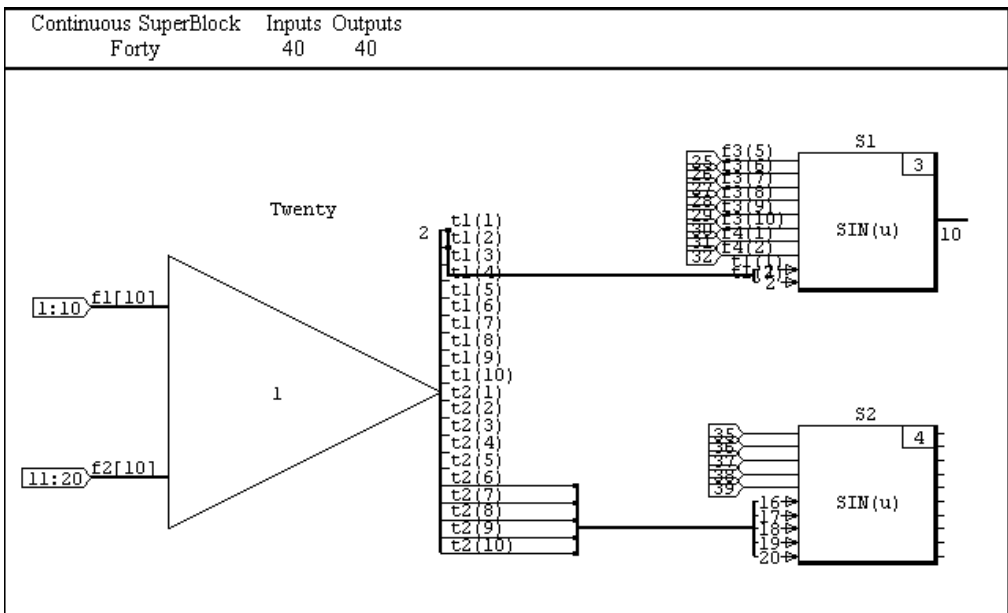

Figure 5-16. Diagram Before External Output Connections
- The diagram should now resemble Figure 5-16.